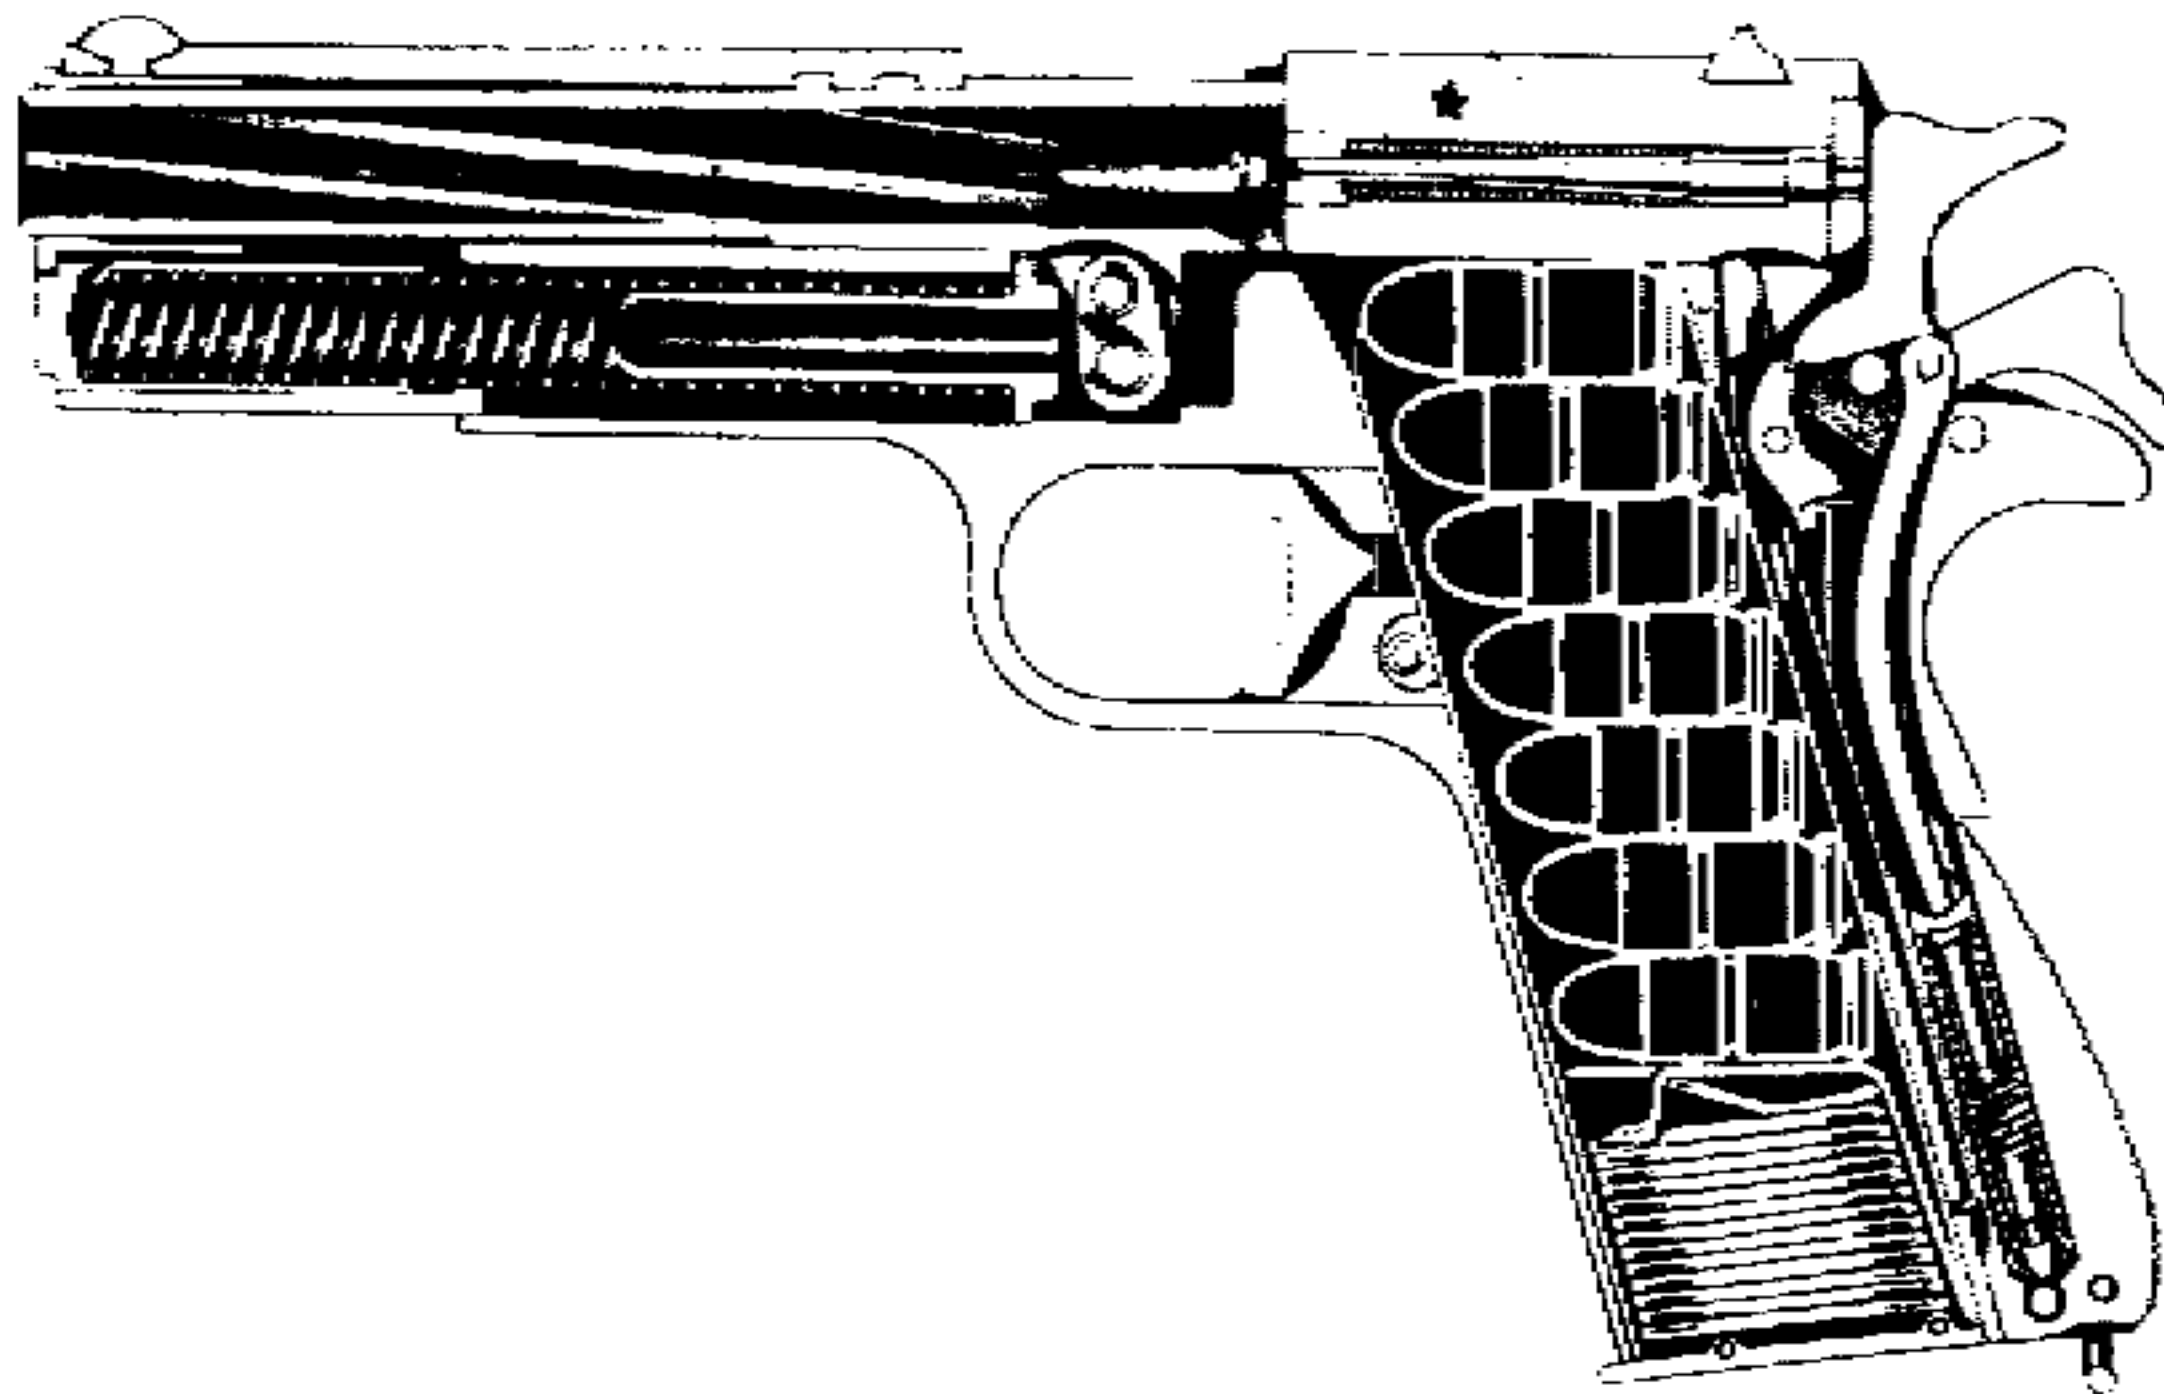
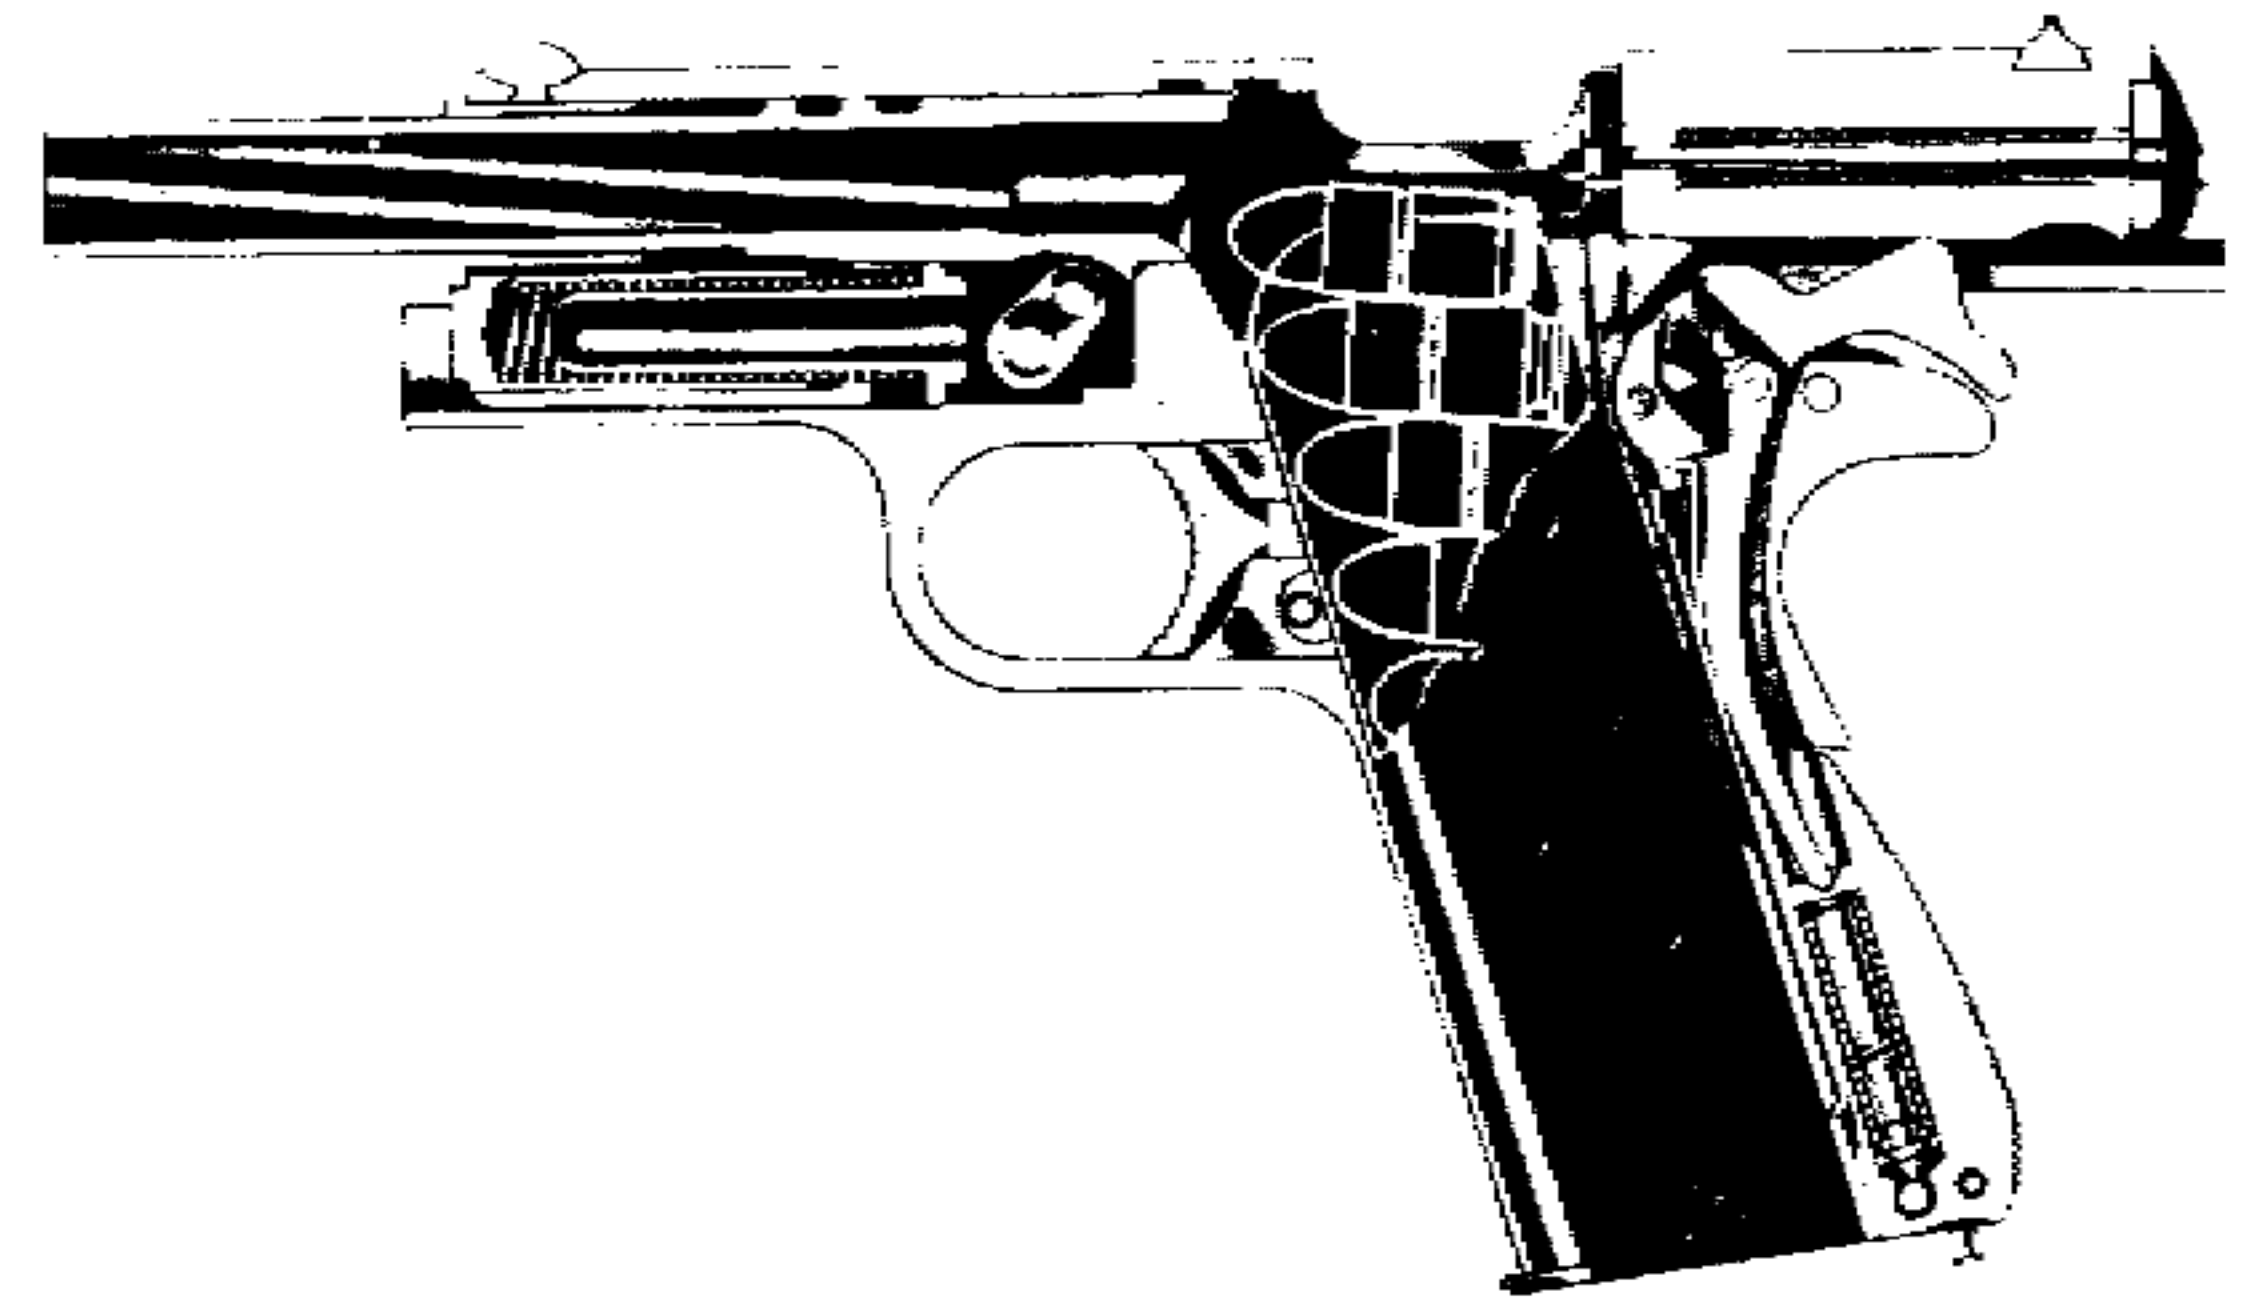
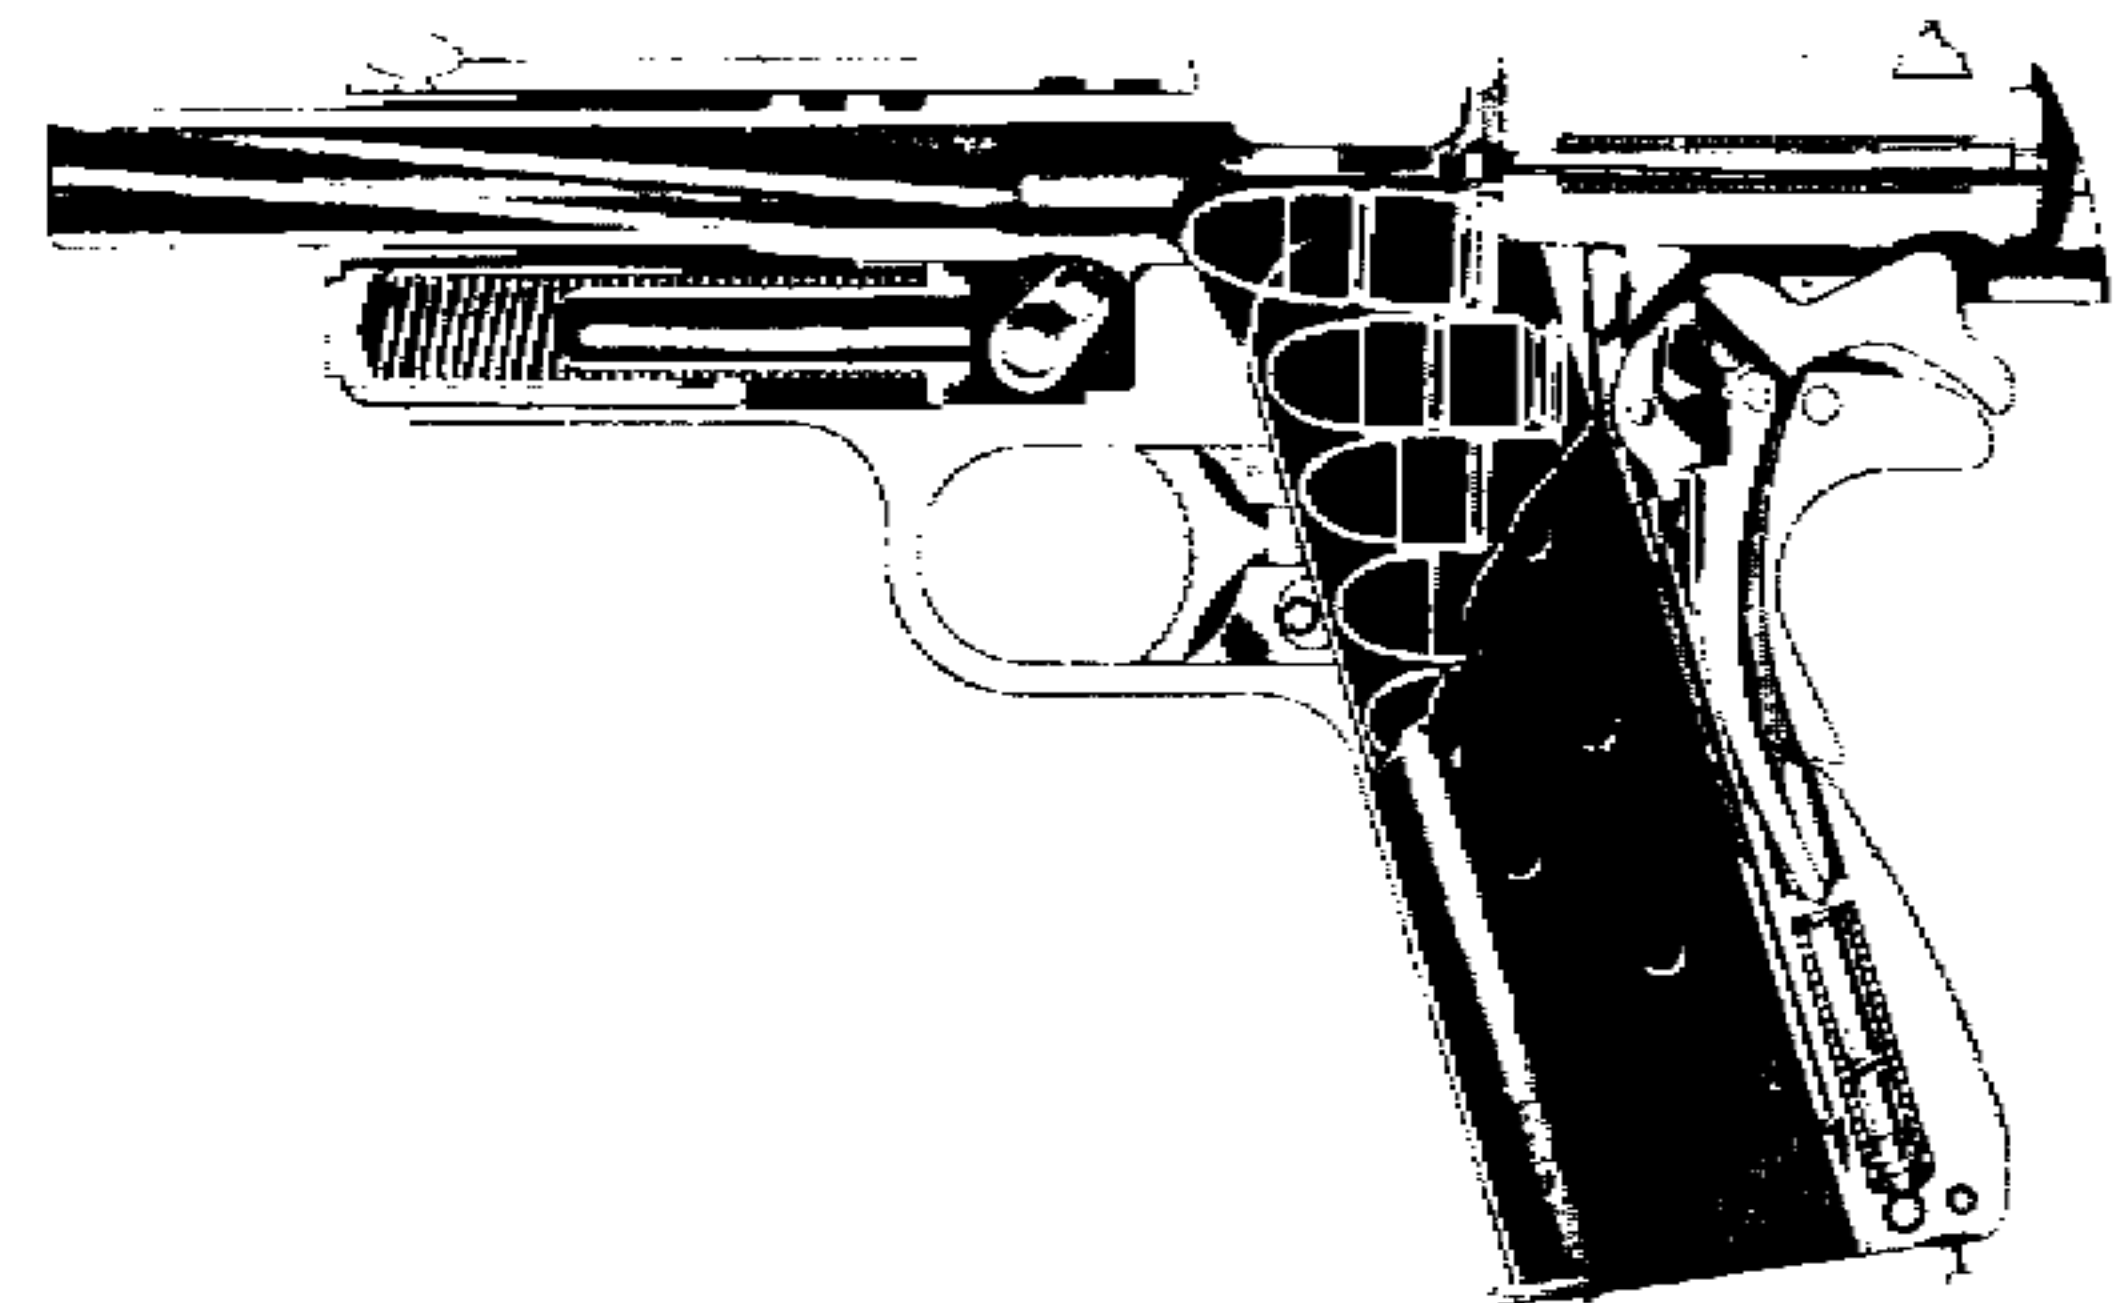
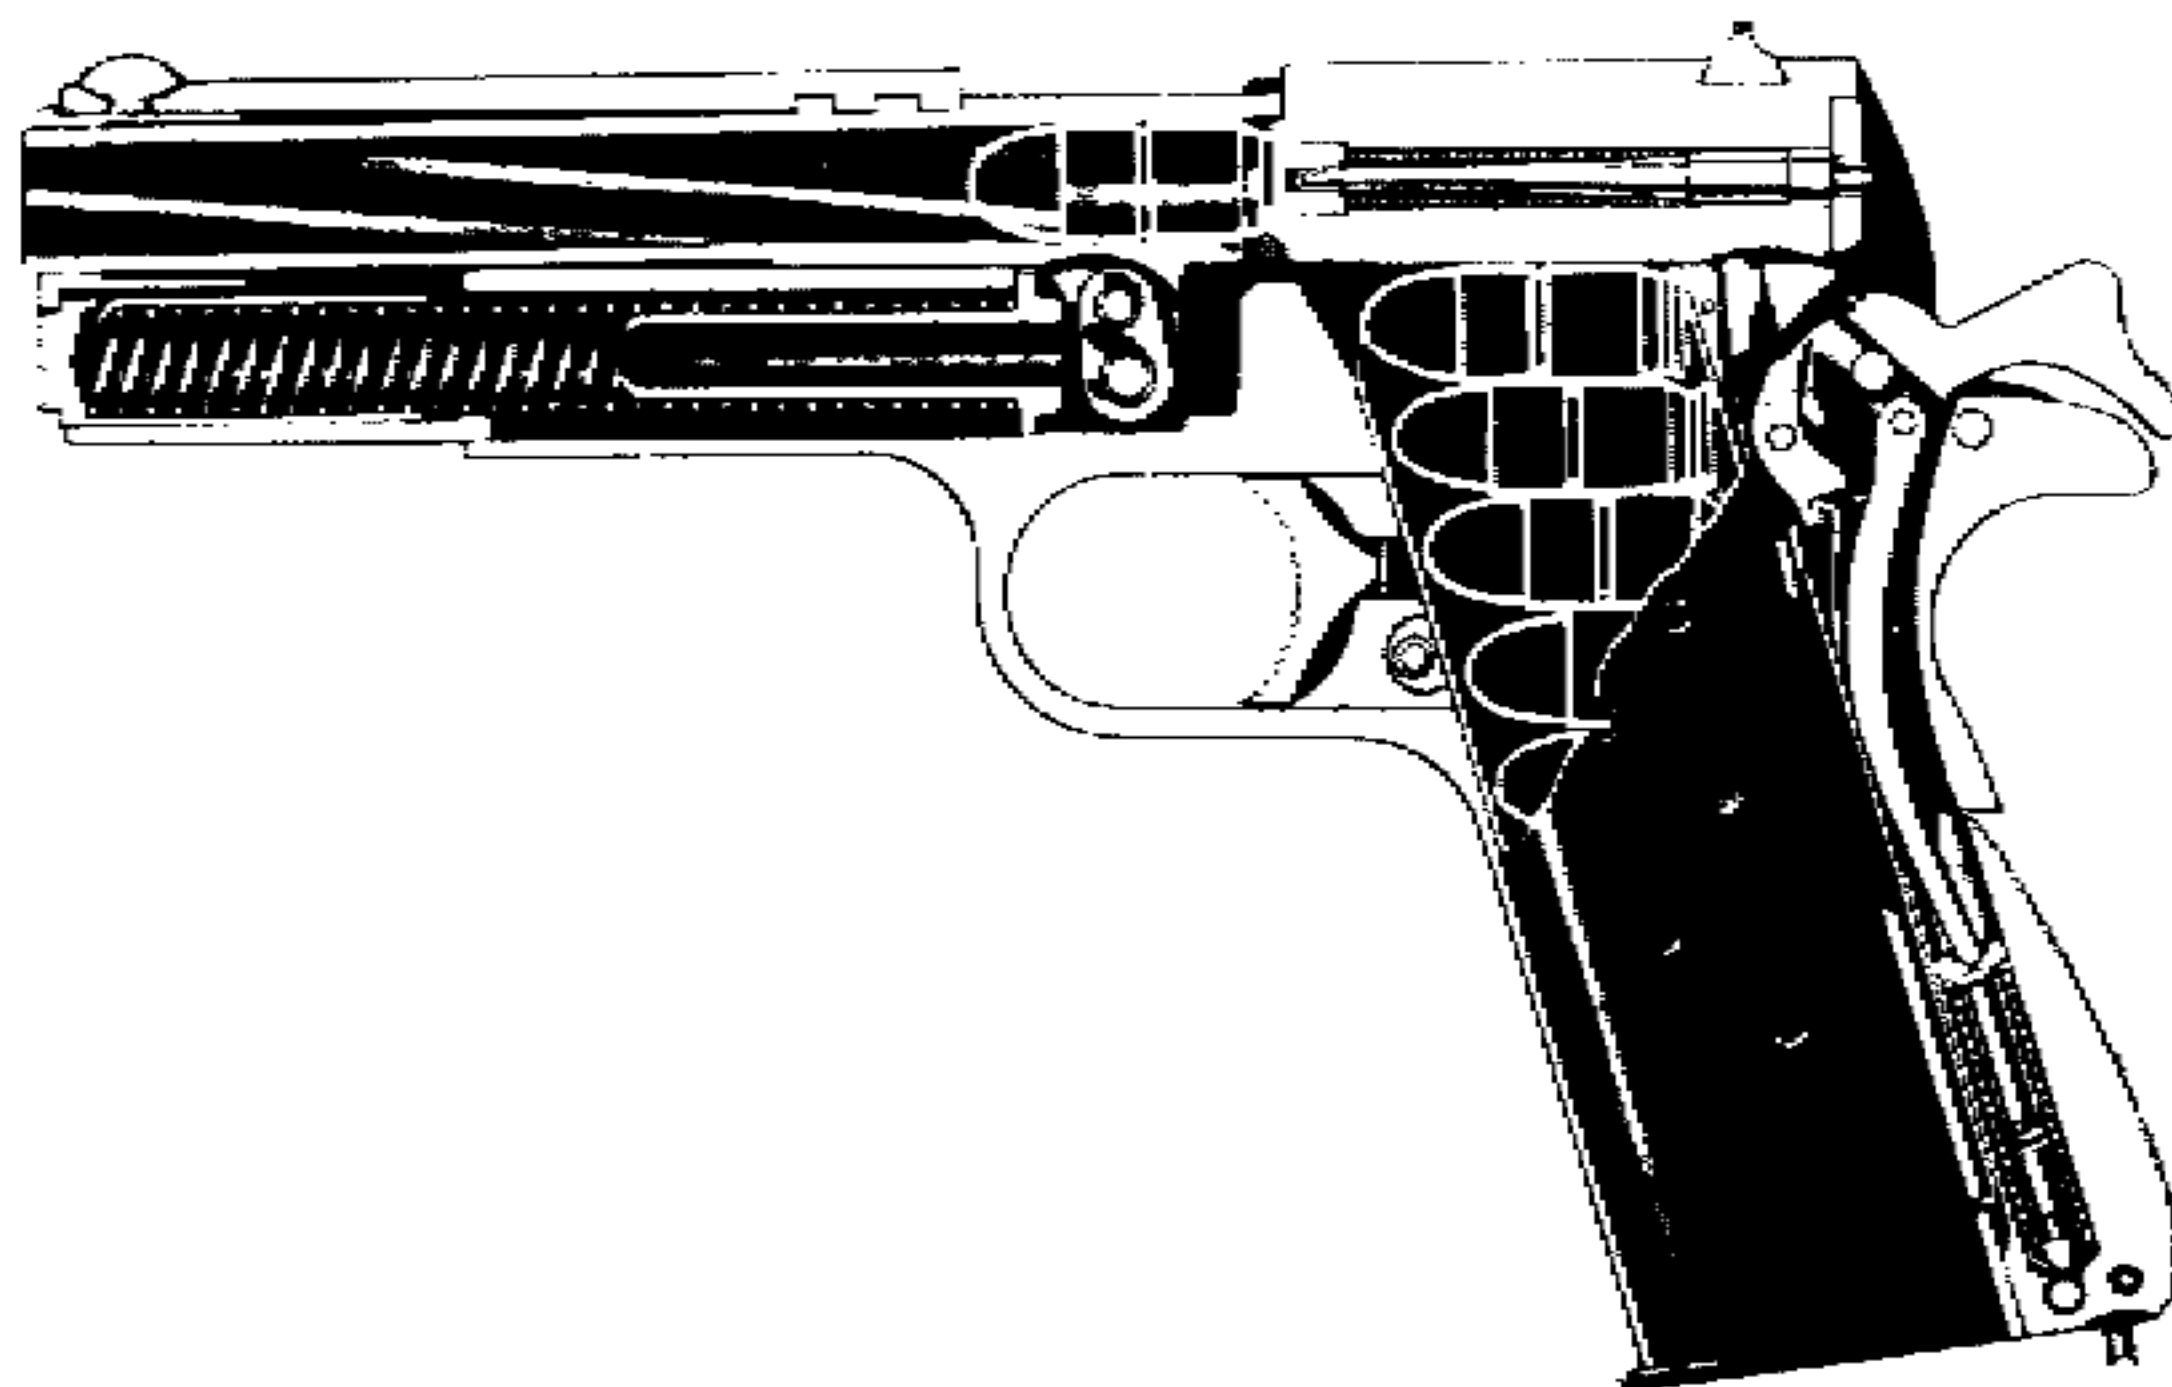

Figure 14. — Sectional View of Pistol M1911A1, Slide Forward, Magazine Loaded, Chamber Empty, Hammer Down
Figure 15. — Sectional View of Pistol M1911A1, Slide Back, Hammer Back, Magazine Full (Enclosed)
Figure 16. - Sectional View of Pistol M1911A1, Slide Partly Forward, Cartridge Entering Chamber, Hammer Back
Figure 17. — Sectional View of Pistol M1911A1, Slide Closed, Cartridge in Chamber, Hammer Back
a. In loading, the charged magazine is inserted in the receiver (fig. 14) and the slide is drawn once to the rear. This movement cocks the hammer and compresses the recoil spring (fig. 15). The magazine follower then raises the upper cartridge into the path of the slide (fig. 16). When the slide is released, it is forced forward by the recoil spring and carries the first cartridge into the chamber of the barrel. As the slide approaches its forward position, it encounters the rear extension of the barrel and forces the barrel forward. The rear end of the barrel then swings upward on the barrel link as on a pivot. When the slide and barrel reach their forward position, they are positively locked together by the locking ribs on the barrel and slide. Their joint forward movement is arrested by the barrel lug encountering the pin on the slide stop. The pistol is then ready for firing (fig. 17).